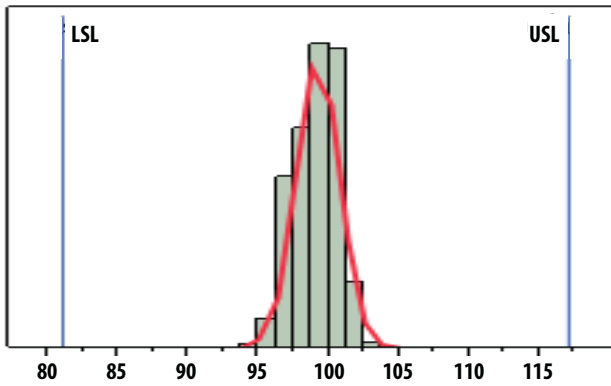

Figure 1. Idd, LSL = 81 mA, nominal = 99 mA, USL = 117 mA
RF performance at  $T_A = 25^\circ\text{C}$ ,  $V_{dd} = 5\text{ V}$ , 1785 MHz, measured on demo board in Figure 1 with component listed in Table 1 for DC bypass.
1. Measurements at 1785 MHz obtained using demo board described in Figure 1.